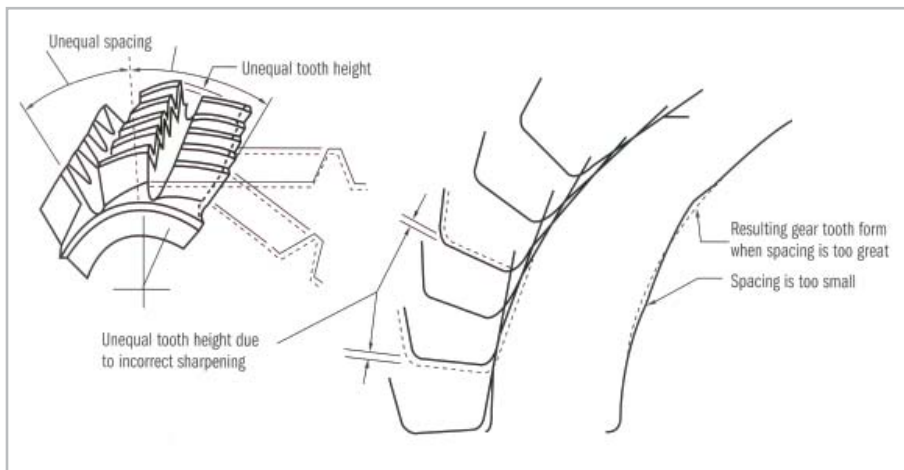

Figure 8. Effect on profile of a hob resharpener with cutting faces unequally spaced, creating accumulated flute spacing error.
- 3) Hob cutting faces are sharpened by unequal amounts resulting in uneven flute spacing (Figure 8)